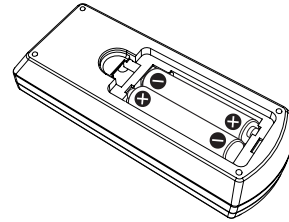

Fig. 2
- 2) Insert batteries and close the cover (Insert the "⊕" side first.). (Fig. 2)